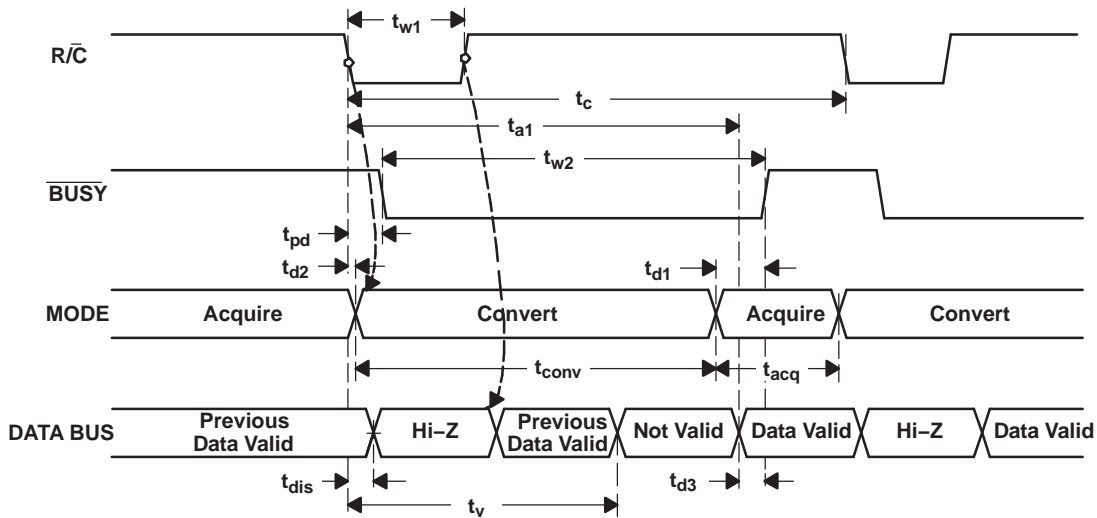
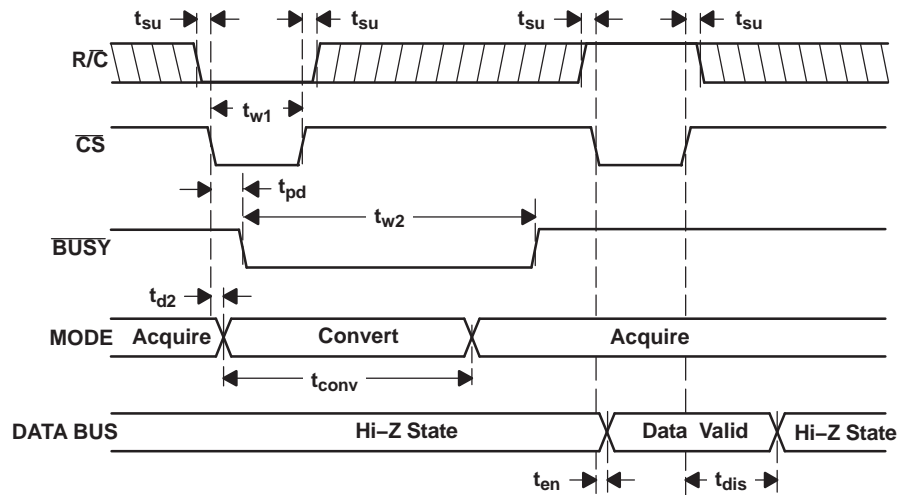
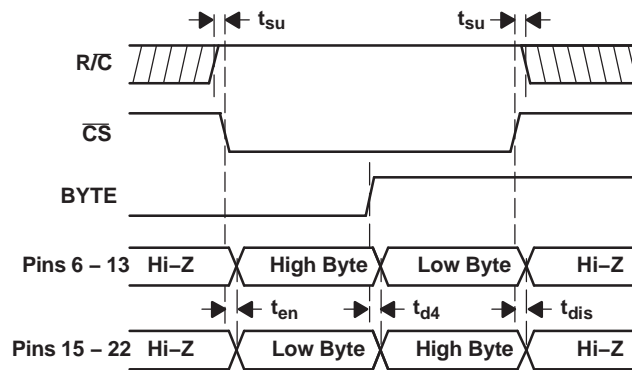

Figure 21. Conversion Timing with Outputs Enabled after Conversion (\overline{CS} Tied Low)
Figure 22. Using \overline{CS} to Control Conversion and Read Timing
Figure 23. Using \overline{CS} and $BYTE$ to Control Data Bus
The ADS8515 begins tracking the input signal at the end of the conversion. Allowing 4 μs between convert commands assures accurate acquisition of a new signal. Refer to Table 1 for a summary of \overline{CS} , $\overline{R/C}$, and \overline{BUSY} states and Figure 21, Figure 22, and Figure 23 for the timing diagrams.
(1) See Figure 21 and Figure 22 for constraints on data valid from conversion $n - 1$.
After conversion n is completed and the output registers have been updated, $\overline{\text{BUSY}}$ (pin 26) goes high. Valid data from conversion n are available on D15 to D0 (pins 6 to 13 and 15 to 22). $\overline{\text{BUSY}}$ going high can be used to latch the data. Refer to Table 3 and Figure 21, Figure 22, and Figure 23 for timing specifications.
After conversion n has been initiated, valid data from conversion -1 can be read and are valid up to t_2 after the start of conversion n . Do not attempt to read data from t_2 after the start of conversion n until $\overline{\text{BUSY}}$ (pin 26) goes high; this may result in reading invalid data. Refer to Table 3 and Figure 21, Figure 22, and Figure 23 for timing specifications.
The number of control lines can be reduced by tying $\overline{\text{CS}}$ low while using the falling edge of $\overline{\text{R}/\overline{\text{C}}}$ to initiate conversions and the rising edge of $\overline{\text{R}/\overline{\text{C}}}$ to activate the output mode of the converter. See Figure 21.